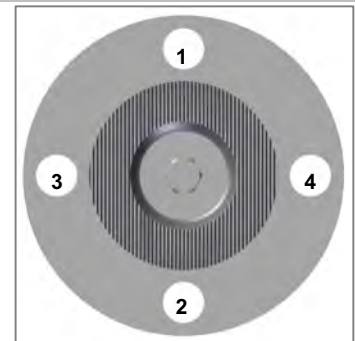

Figure 3-1 Tightening Sequence
- 3.3.7 Install the nuts and tighten them in 1/3-torque increments in a diagonally alternating sequence, as shown in Figure 3-1. Consult gasket manufacturer for recommended torque requirements.